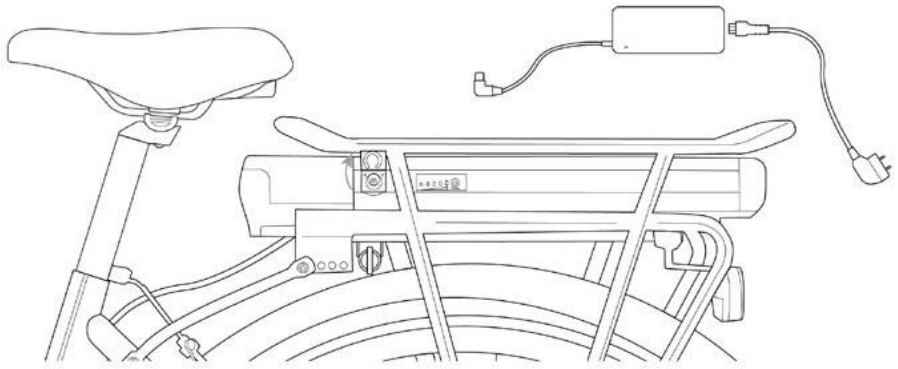

FIG. 10
- 3- Lift the rubber cap on the appropriate battery charging socket, located on the left side of the battery (Figure 10);